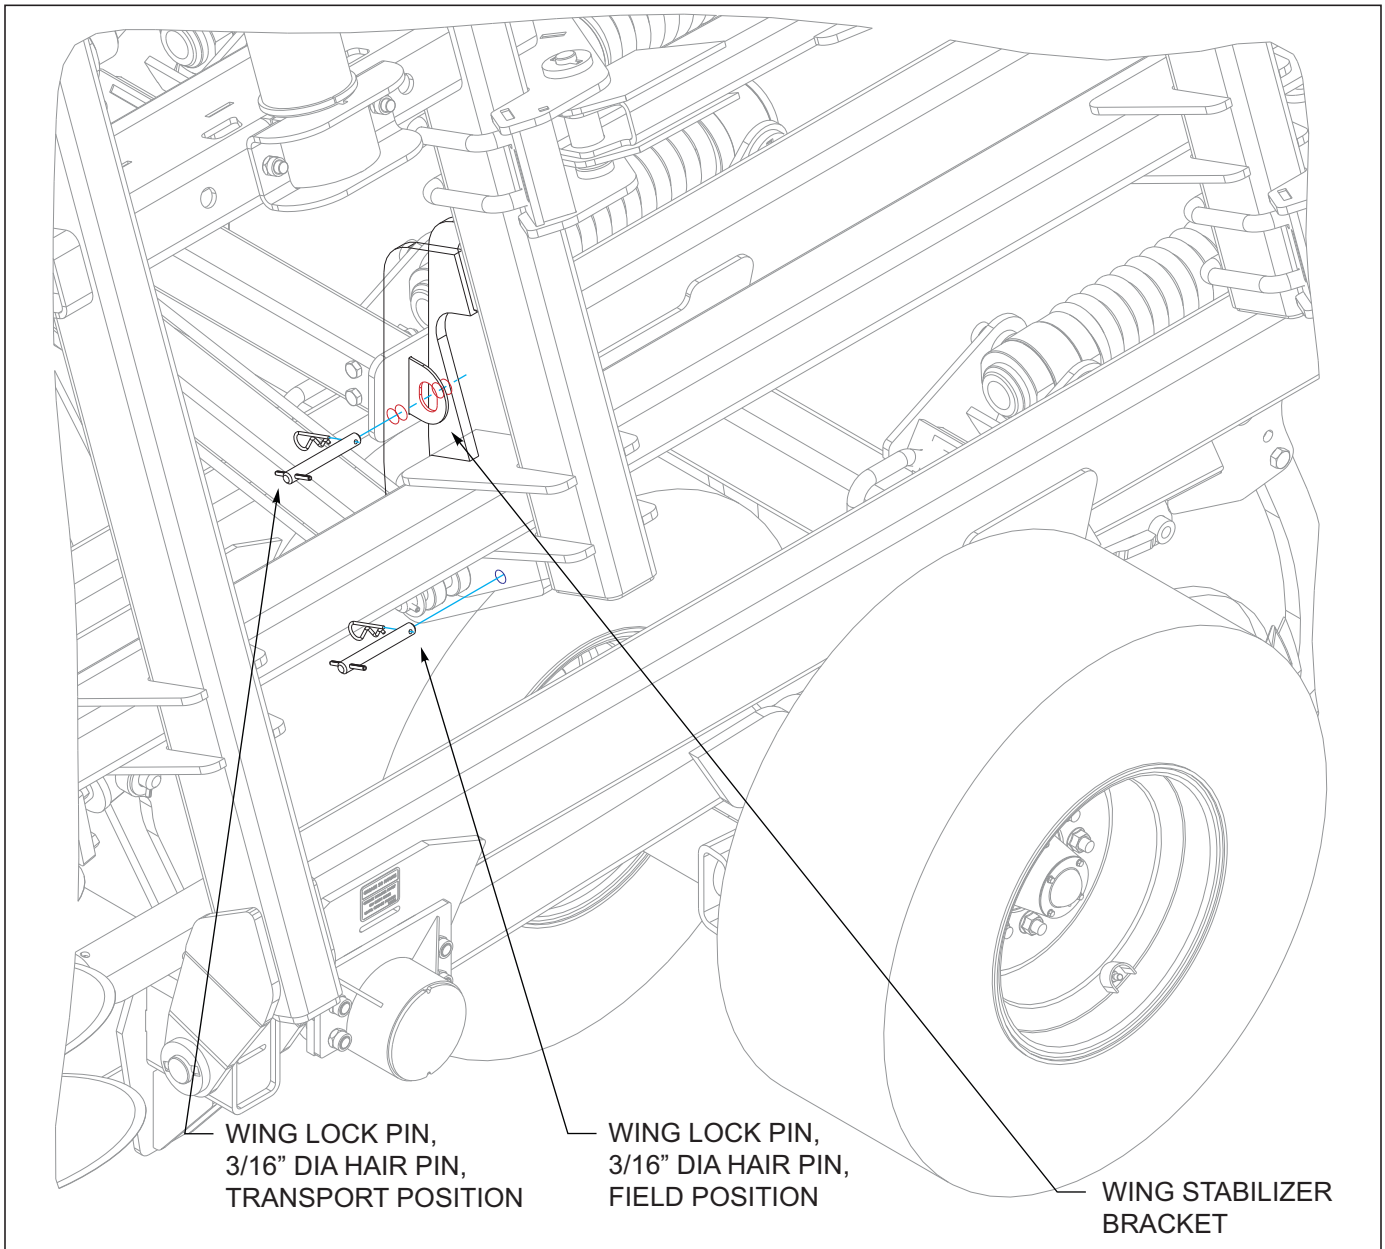

Figure 4-5: Fold Transport Locks
5. To fold/unfold the 2132 Coulter Chisel, find a level area large enough to accommodate the implement when it is fully unfolded. The tractor should be stopped and not moving with the unit fully raised. Remove the 3/16" dia hair pins, wing lock pins from the wing stabilizer transport position and install them in the storage locations See Figures 4-5.
2. Remove the wing lock pins and store in the extra hole in the hinge bracket. Unfold the wings and extend the fold cylinders completely See Figure 4-5.